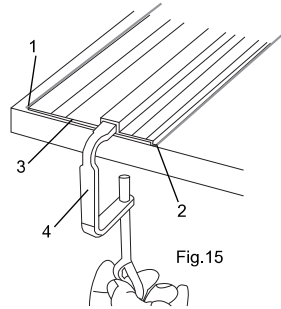

Fig.15
4. Place the clamp (4) on the left hand side of the guide track at each end to hold it firmly onto the workpiece with the left edge on the guide track alignment marks (1). (Fig.15)